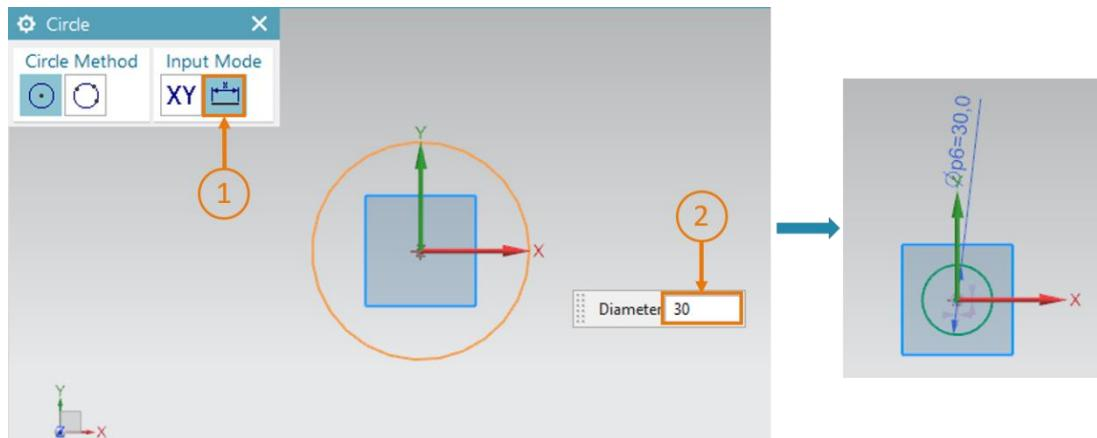

Figure 16: Preparing the sketch for the cylinder – Part 2
- Switch to the **parameter mode** for selecting the diameter and specify a value of **30 mm** (see Figure 16, steps 1+2). Once again, confirm your entry by pressing the Enter key. You should then see the sketch of your circle in the graphics window. You can recognize this from the indication of the diameter, as shown on the right side in Figure 16.